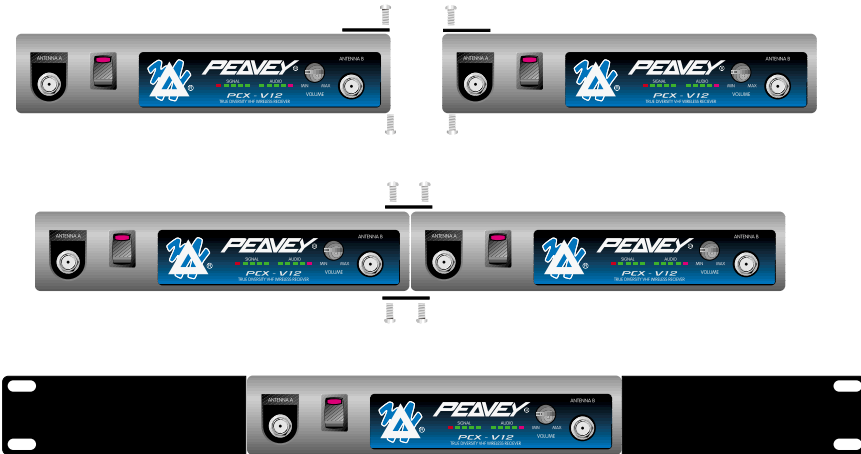

Figure 6
1. Remove the screws at the top and bottom of the receiver where they will be joined together. Remove one steel plate from each receiver. Push the receivers next to each other. Refer to Figure 6.
2. Insert the steel plate in between the two receivers (top and bottom). Align and fasten the screws tightly as shown in Figure 6.
brackets (RM-12) on the outer sides of both receivers as shown in Figure 6.